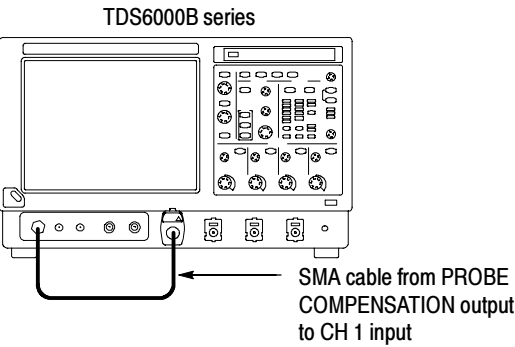

Figure 3-4: Setup for trigger test
2. *Hook up the signal source:* Connect the SMA cable from the probe COMPENSATION output to the CH 1 input through a TCA-SMA adapter as shown in Figure 3-4.